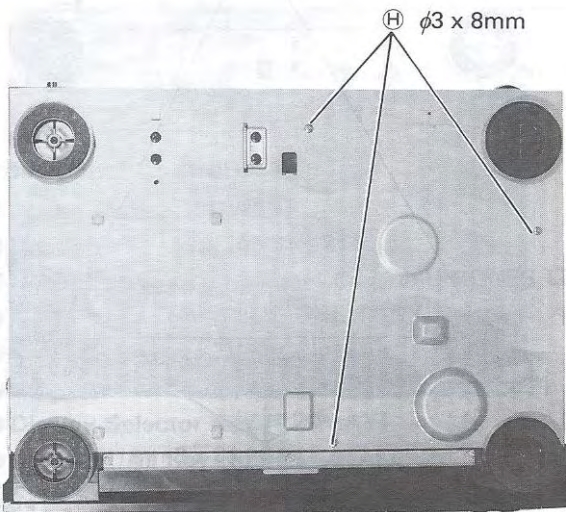

Figure 6
4. Remove three mechanism assembly mounting screws \textcircled{H} from bottom plate. (Figure 6)
3. Remove three mechanism assembly mounting screws (H) from bottom plate. (Figure 6)